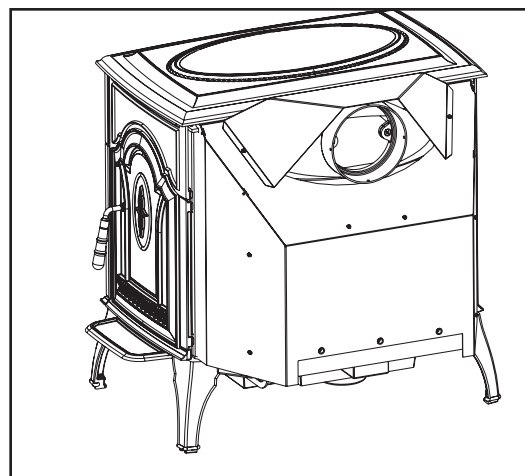

Figure 13.3 - Completed View
8. Place cast top on the unit. See **Figure 13.3** for completed view.